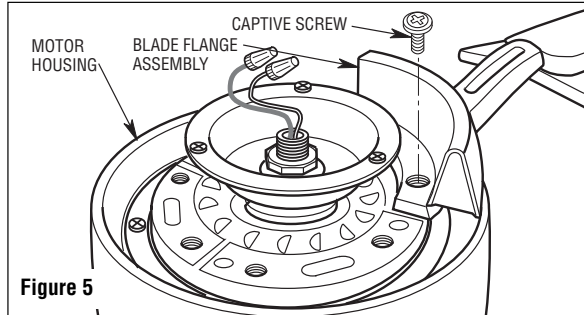

Figure 5
2. Attach one blade assembly to the motor using the captive screw provided for each flange (Figure 5). Make sure the screws are tightened securely. Repeat this procedure for the other three blade assemblies.